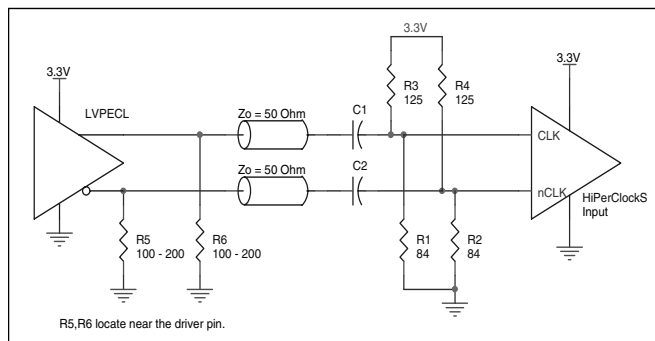

FIGURE 4E. HiPerClockS CLK/nCLK INPUT DRIVEN BY 3.3V LVPECL DRIVER WITH AC COUPLE
*Change to 4D if deleted Fig. 4E